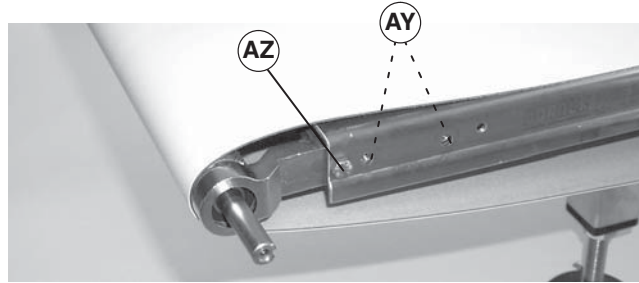
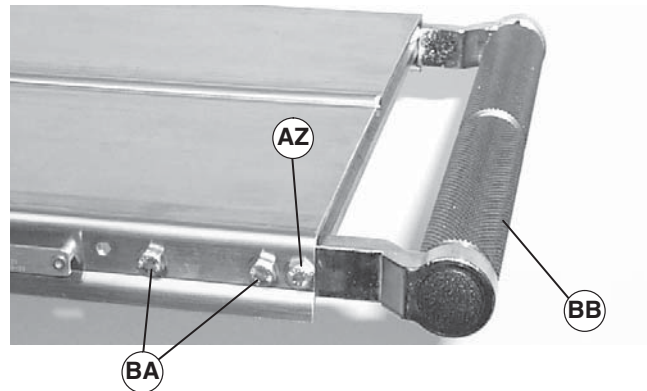

Figure 28
Figure 29
Two screws (Figure 28, item AY) were removed in step 1.
Cross support post (Figure 30, item BC) will not be secure and may drop when screws (Figure 28, item AZ) and (Figure 29, item AZ) are removed.
2. Remove screw (Figure 28, item AZ) and (Figure 29, item AZ) from each side of conveyor.
For a conveyor with a Heavy Load Bottom or Top Gearmotor Mounting Package, the two screws (Figure 29, item BA) were removed in step 1.
Drive spindle assembly (Figure 29, item BB) will not be secure and may drop when screws (Figure 28, item AZ and AY) and (Figure 29, item AZ and BA) are removed.
3. Remove two screws (Figure 29, item BA) from side of conveyor opposite drive shaft.